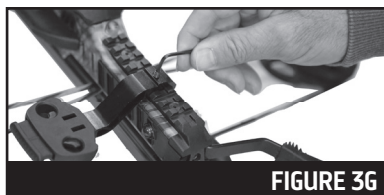

FIGURE 3G
2. Insert the quiver bracket screw into the center hole of the quiver bracket and secure using the supplied hex key as shown in Figure 3G.